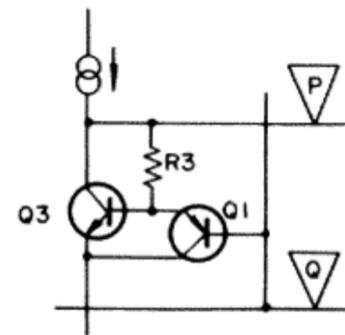

Fig. 6 NSA circuit
rent, the base of Q_1 and point (Q) may be brought to the same level (see Fig. 6) on an AC basis (level fluctuations due to the signal) by a simple shift in DC level. Furthermore, Q_1 may be considered emitter-follower with R_3 as the emitter resistance.